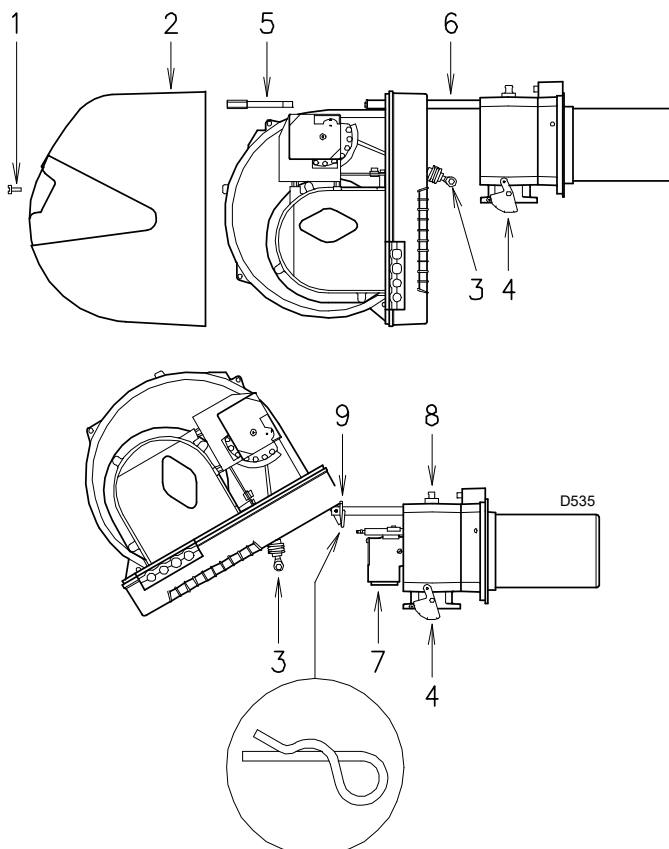

Fig. 31
- remove the screw 1)(Fig. 31) and pull out the hood 2).
Now extract the gas distributor 7) after having removed the screw 8)(Fig. 31).
- Remove the split pin 9)(Fig. 31) and push the burner until it is approx. 100 mm from the pipe coupling. Reconnect the cables and slide in the burner until it comes to a stop. Replace the screws 5) and split pin 9) and carefully pull the probe and electrode cables outwards until they are slightly taut. Reconnect the articulated coupling 3) to the graduated sector 4).